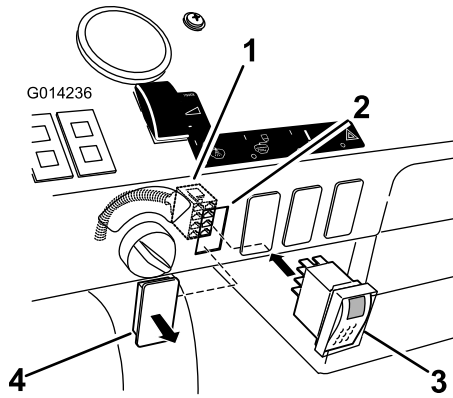

Figure 30
1. Locate the plug for the rinse tank switch on the dashboard (Figure 30).
2. Remove the plug from the dashboard (Figure 30).
5. Install the switch to the box connector through the dashboard (Figure 30).